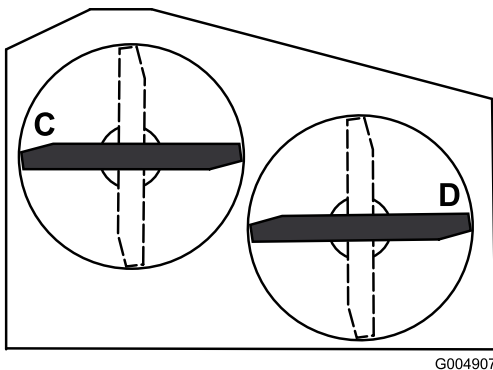

Figure 58
- Position the blades side-to-side. Measure at **C** and **D** locations from a level surface to the cutting edge of blade tips (Figure 58).